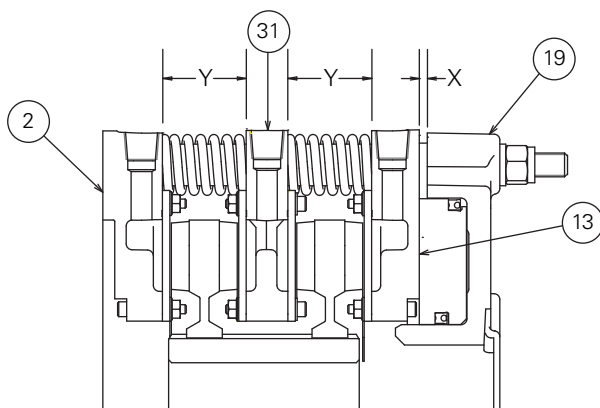

Figure 8
Measure the "Y" gap between the pressure plate (13) and the reaction plate (31), the "Y" gap between the reaction plate (31) and the mounting flange (2), and the "Z" gap between the reaction plates (31) as shown in Figures 8, 9, 10.